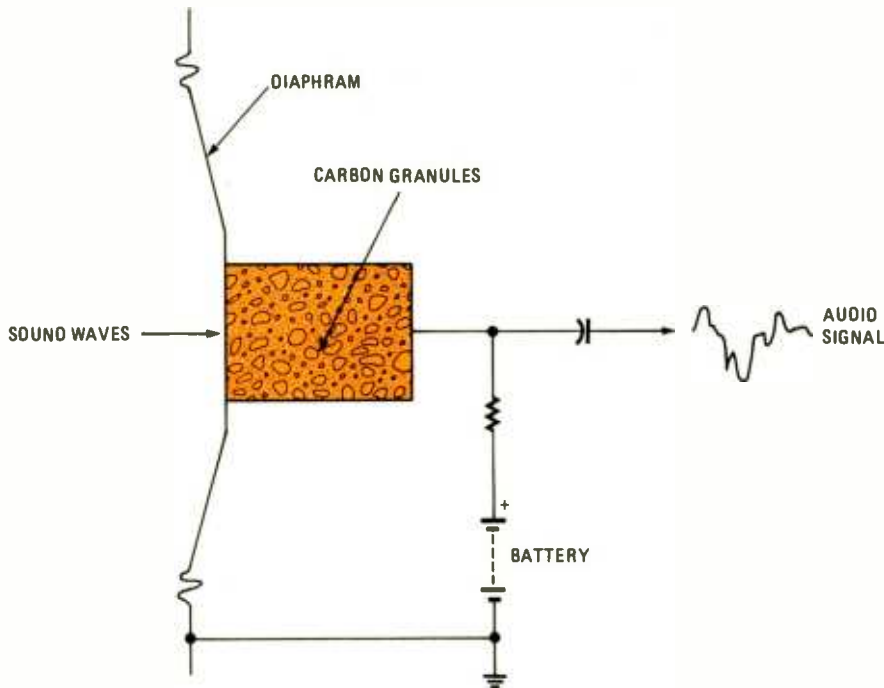

Fig. 1. The carbon microphone is one of the oldest audio-to-electric conversion devices around. It was developed by Thomas A. Edison.
**Variable Resistance.** One of the earliest conversion methods used was to vary a resistance. That method was used in the design of the carbon microphone; see Fig. 1. Carbon microphones are very rugged, which is why they were used for telephone and military communications well into the 50's.